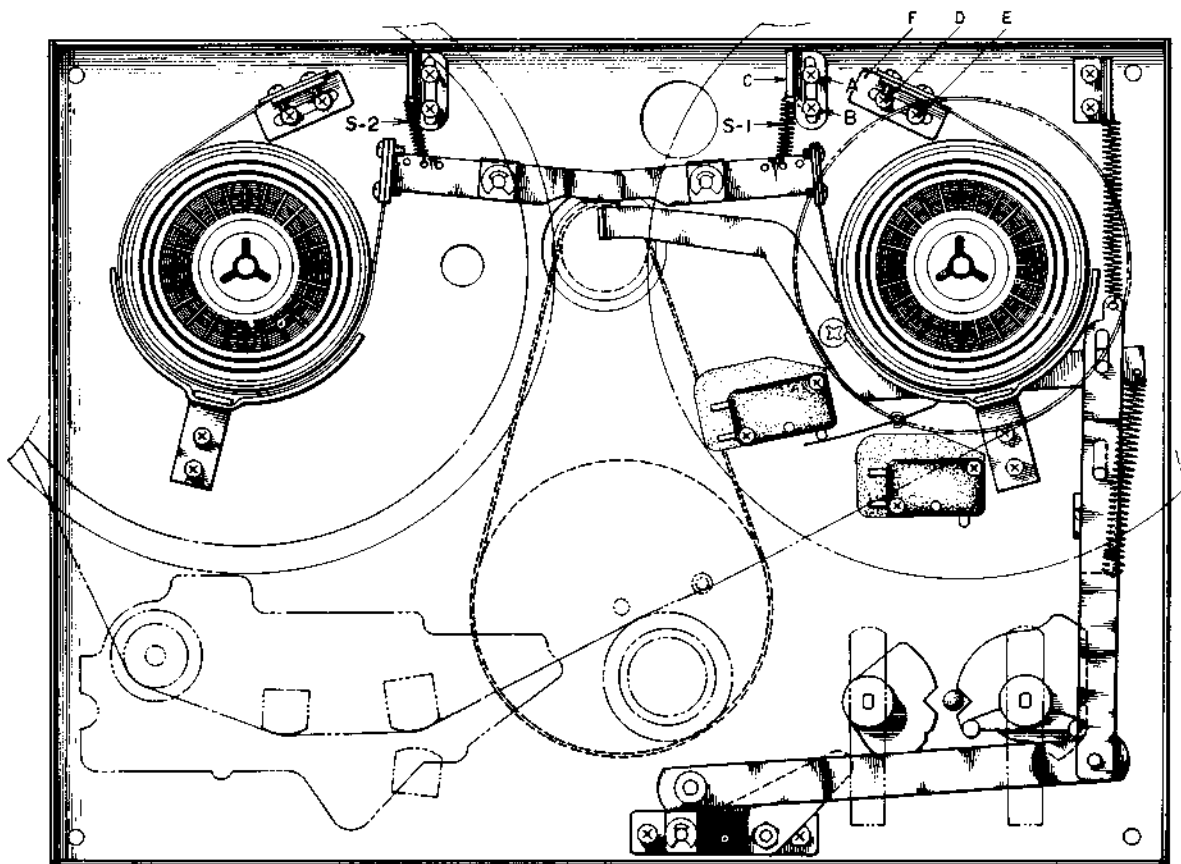

Fig. 8
(See Fig. 8)
For Brake Tension Measurement, use a 60 mm tape wound on a 5" reel and measure with a Tension Gauge. Standard tension is 280 to 330 grams. Adjust Brake Tension by changing position of suspended springs (S 1 and S 2 in Fig. 8), loosening screws (A) and (B) and changing position of spring suspension metal (C), or loosening screws (D) (E) and changing position of F. Caution: Following Brake Adjustment, confirm that the Brake Band does not touch the cloth tape on brake drum.